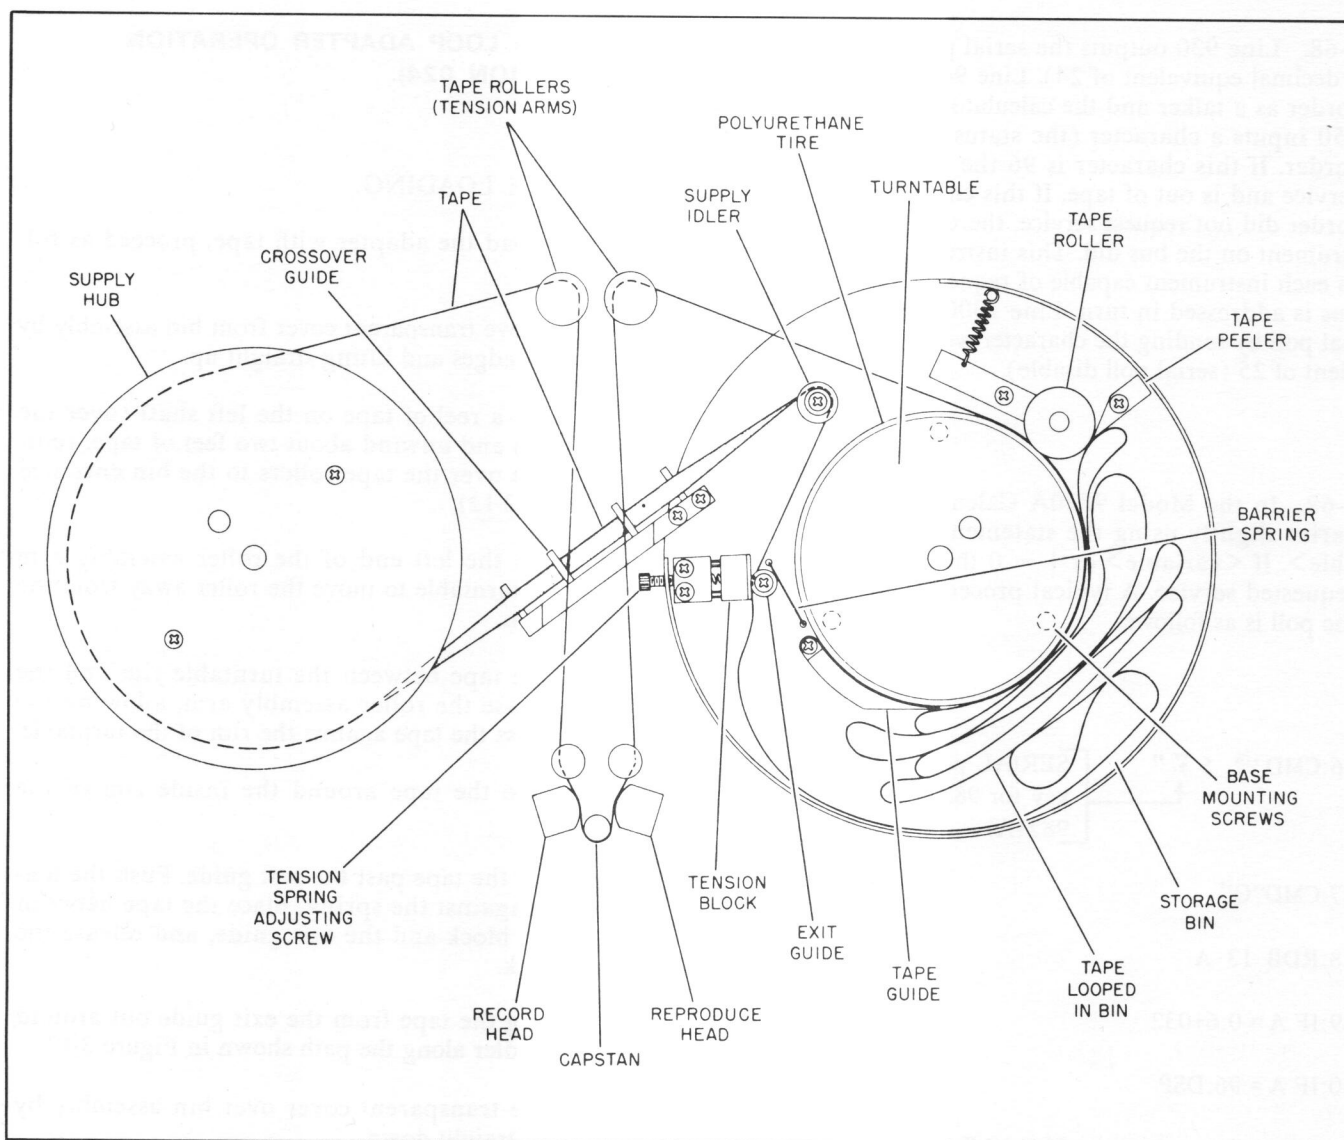

Figure 3-12. Tape Loop Adapter Nomenclature and Tape Path
b. Place a reel of tape on the left shaft (over the supply hub) and unwind about two feet of tape, routing the tape over the tape rollers to the bin entrance (see Figure 3-12).
g. Bring the tape from the exit guide out around the supply idler along the path shown in Figure 3-12.
b. Loosen the peeler mounting screw (see Figure 3-12) and position the peeler tip approximately .010 inch from the roller; tighten the screw.
a. Loosen the two screws holding the crossover arm to the base of the bin assembly (see Figure 3-12).
a. Back off the tension adjusting screw to the tension block (see Figure 3-12) until the left hub stops or turns backwards due to loss of tension.